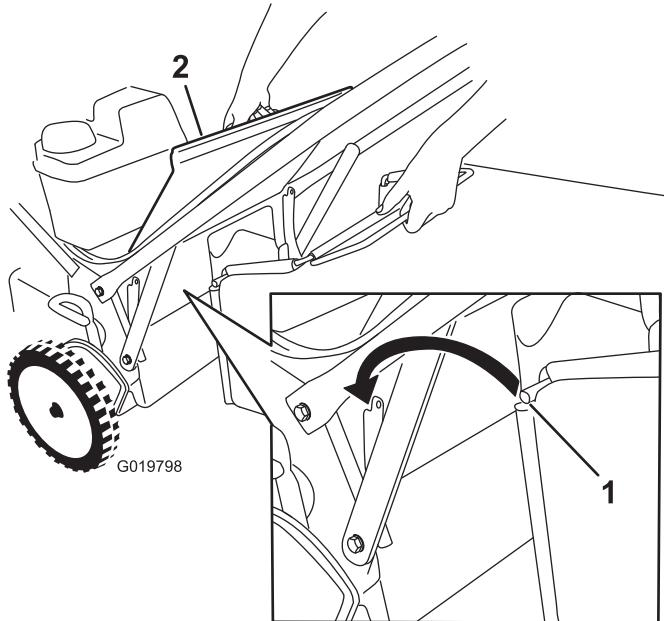

Figure 23
1. Raise and hold up the rear deflector (Figure 23).
the rod is seated at the bottom of both notches; refer to Figure 23.